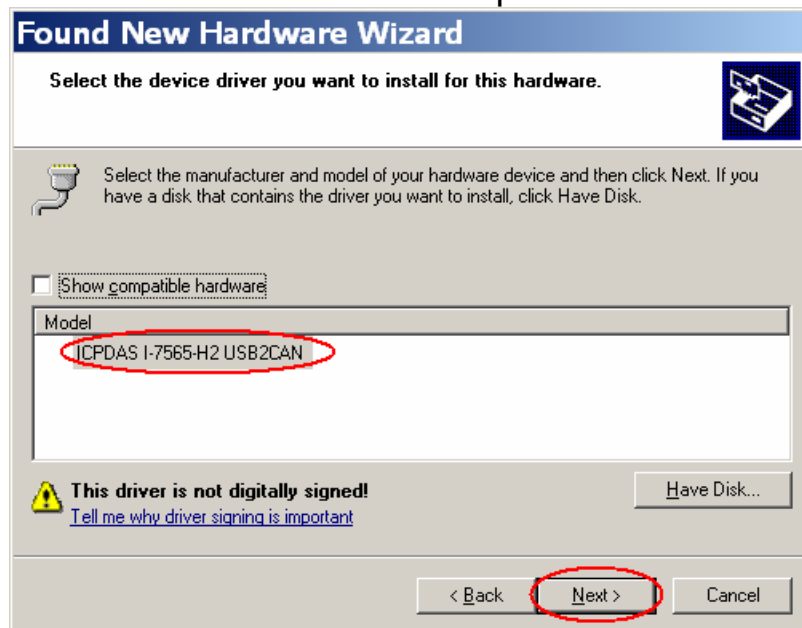

Figure 6-5: Driver Installation of I-7565-H1/H2 (2)
(4) When the Figure 6-5 shows, click “Next” button and the other steps are the same with those in chapter 3.